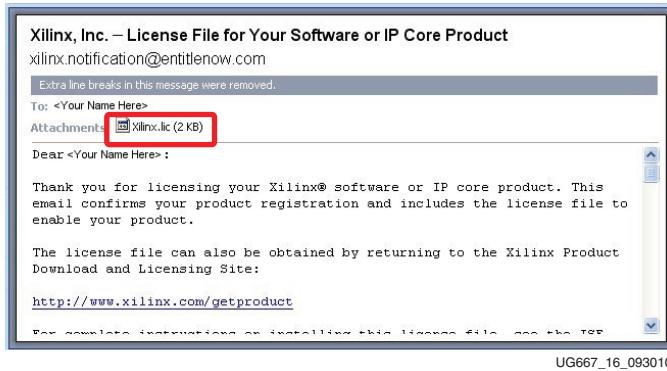

Figure 16: Xilinx License Notification E-mail
8. The generated license is e-mailed to you in an E-mail similar to the one shown in Figure 16.